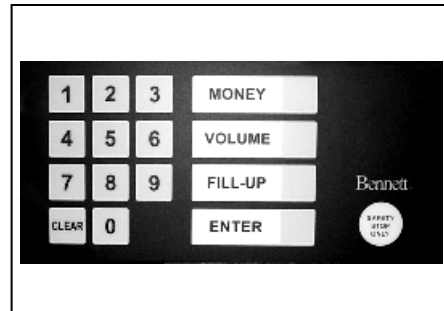

Figure 56
1. Choose either **MONEY** key or **VOLUME** key. See Figure 56.